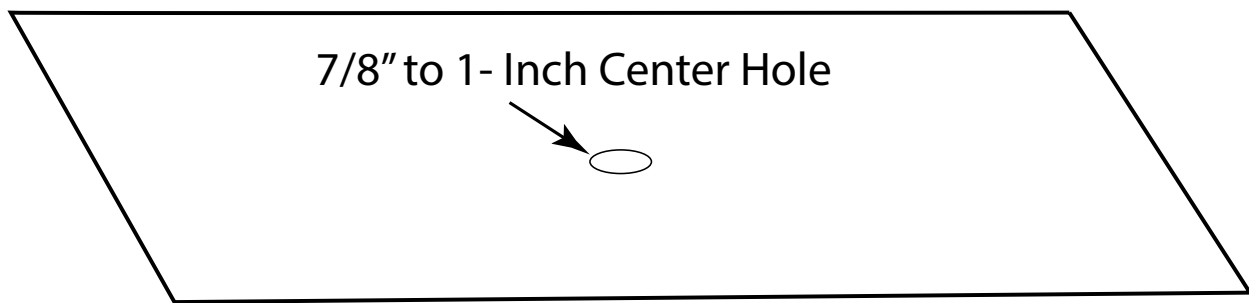
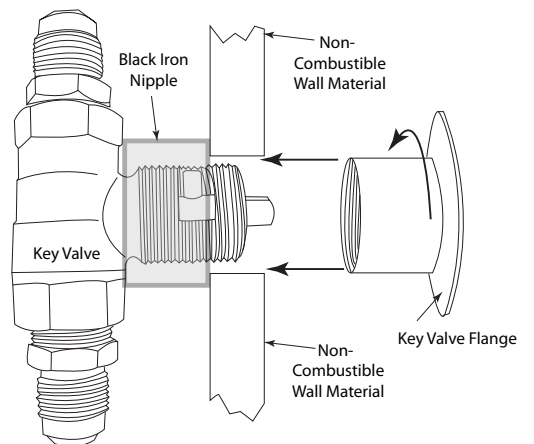

Fig. 4 Minimum center clearance hole in burner pan.
Fig. 5 Typical installation.
Step 1: Install the H-Burner through the pan (See Fig. 4) then install the OAS and U3-8D-S to the nipple connect inlet gas line as shown in Fig. 5.